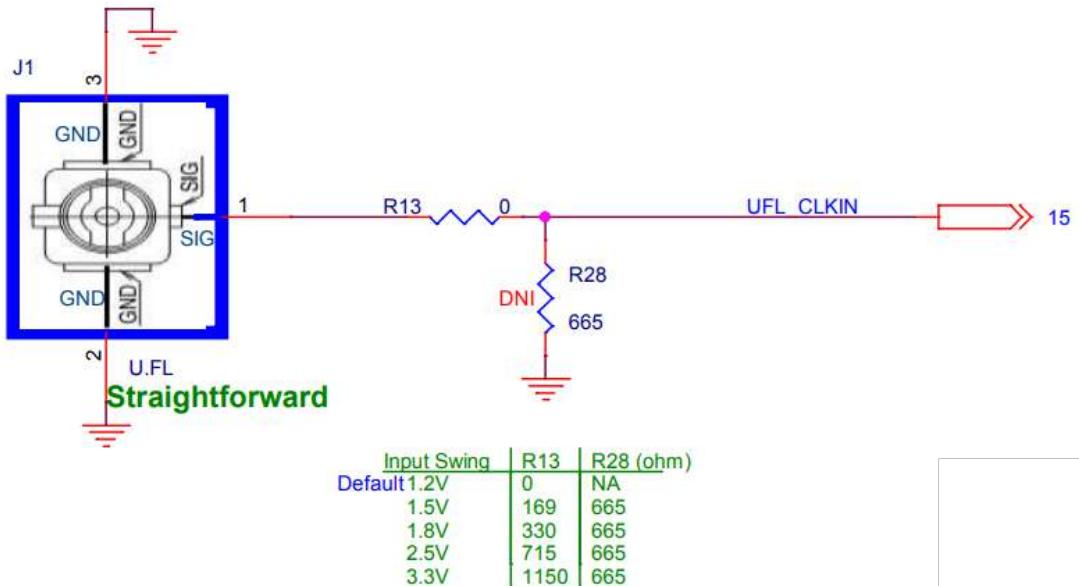

Figure 2-15 U.FL clock input signal level setting
***(1):** The I/O standard of the **UFL_CLKIN** clock input from J1 to the FPGA needs to be **1.2V**. If the input clock I/O standard from the J1 exceeds 1.2V, it should be divided to 1.2V by using two series resistors (R28 and R13). **Figure 2-15** shows that in the case of different input clock voltage level, the corresponding resistance value settings for